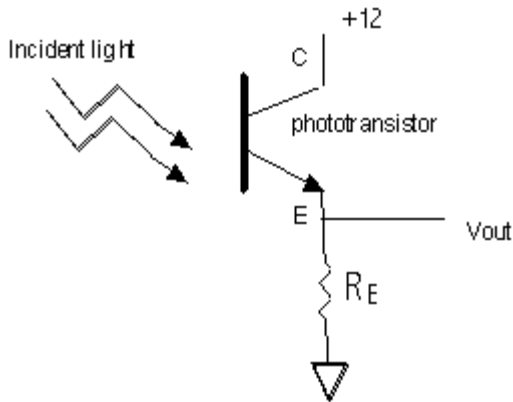

Figure 1. Light meter circuit.
**1. Construct Light Meter Circuit:** On the larger of the two breadboards supplied, construct IR light meter circuit shown in Figure 1. (Note that some of the phototransistors have only two leads with no wired connection to the base.) Infrared (IR) light that falls on the base of the transistor generates a low level current that is amplified, with the resulting current flowing out through the collector-emitter junction. When this current flows through the emitter resistor,  $R_E$ , a voltage level proportional to the incident light intensity can be observed between the emitter and ground. Use the multimeter to monitor this voltage level when different amounts of light shine on the phototransistor. Try different resistors. Depending on the requirements of the system and the characteristics of the phototransistor, a variety of resistor values from  $500\Omega$  to  $1M\Omega$  may be appropriate. (You will be exploring this choice in greater depth over the next few weeks.) In any case, you should pick a resistor for which  $V_{out}$  in room light is not "saturated" within a few tenths of a volt of 12V. (The transistor only functions as an effective amplifier when the voltage between the collector and emitter is greater than about 0.5V.) Once the output is saturated, changes in the amount of light have little effect on the output voltage, so the detector no longer detects changes in light intensity! Note in your notebook what happens when you a) move the breadboard to different locations near your workbench; b) cover the phototransistor with your hand or other opaque object; c) partially block the overhead lights using your body, d) point the phototransistor at the room lights. Determine the voltage corresponding to the normal "background level" of ambient light in the room. Be sure to record this voltage in your notebook as you will need to use it later on.